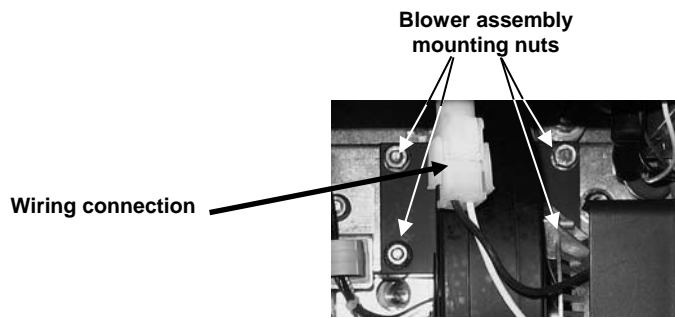

Figure 8
1. Disconnect the blower wiring harness (see Figure 8), remove the blower assembly mounting nuts, and remove the blower assembly from the fryer. If cleaning the motor, continue with Step 2; otherwise, install the replacement blower, reconnect the wiring harness, and then go to Step 6.